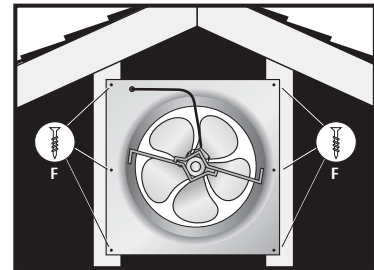

Figure 1 (view from inside attic)
Step 1 Choose location to install the gable fan. The fan must be installed between studs in the gable area. For proper ventilation, the fan unit must cover the entire gable opening. If the gable opening is larger than the fan unit shroud, the excess opening must be blocked. **DO NOT CUT ANY WOOD FRAMING.** From inside the attic, position the gable fan (with the motor facing the attic) to the desired location and secure the shroud with the provided wood screws (see Figure 1).